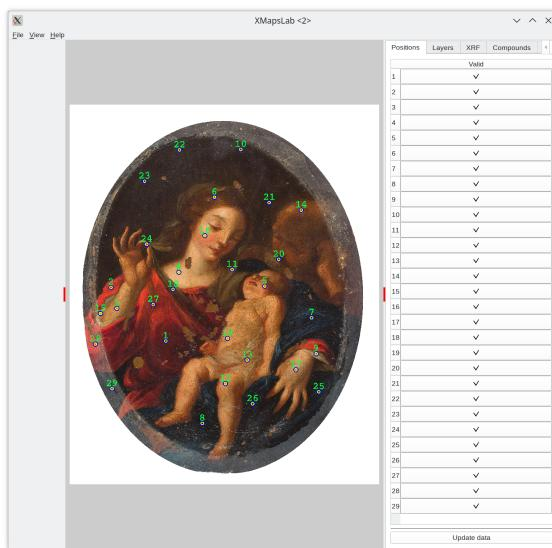

Figure 5.23: The positions are shown.
- **Show positions:** This option enables you to display the positions where the measurements were made. This helps visualize the spatial distribution of measurements (Figure 5.23).